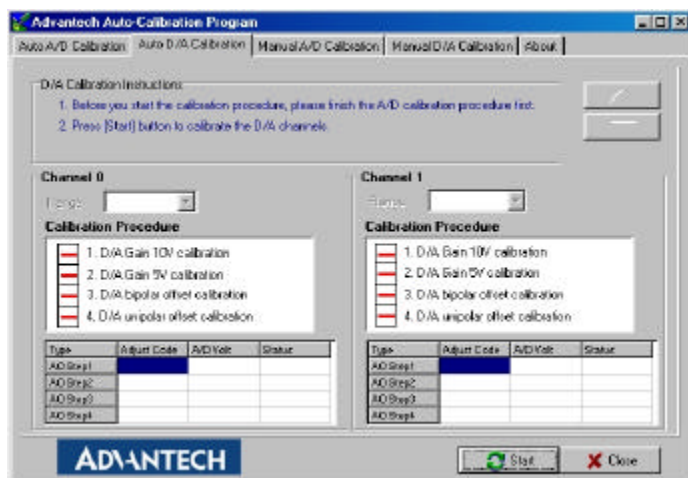

Fig. 5-11 Range Selection in D/A Calibration
Step 9: Click the *Auto D/A Calibration* tab to show the D/A channel auto calibration panel. Please finish the A/D calibration procedure first before you start the D/A calibration procedure. There are two D/A channels in PCI-1716; select the output range for each channel and then press the start button to calibrate D/A channels (Fig. 5-11).